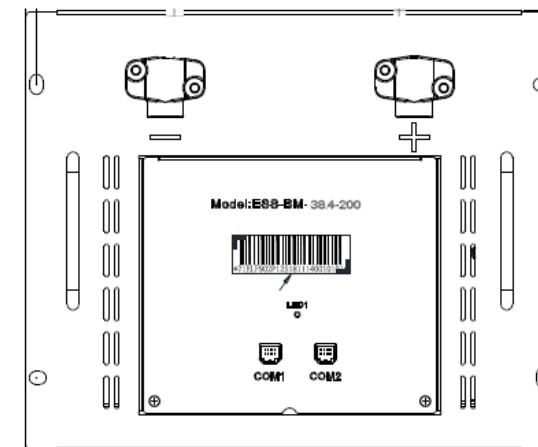

Figure 6-1 Diagram of the battery module label (picture is for reference only)
- 2) Determine the installation position of the battery module according to the label of the battery module (as shown in Figure 6-1, the 4 digits are the installation position of the battery module, 0101 indicates the first position of the first cluster, and 0211 indicates the 11th position of the second group) .